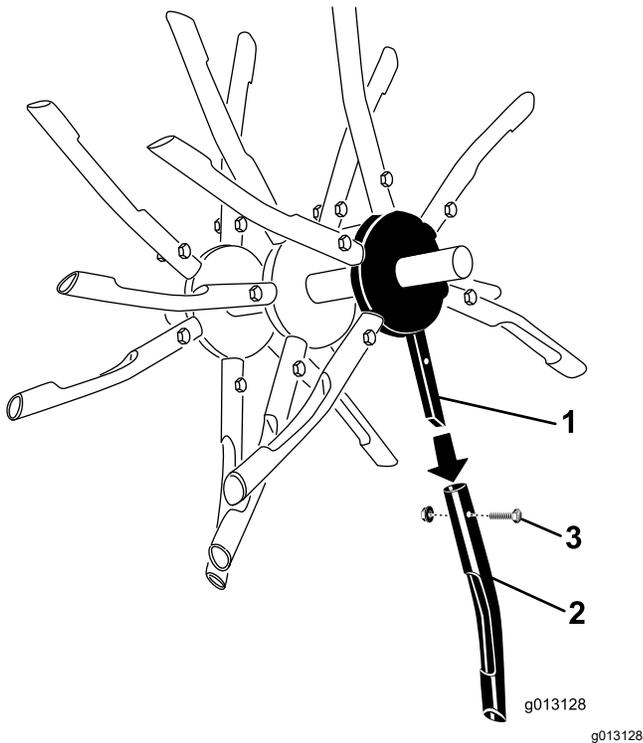

Figure 40
4. If any are damaged or broken, remove the nut and bolt securing the tine to the tine assembly (Figure 40).